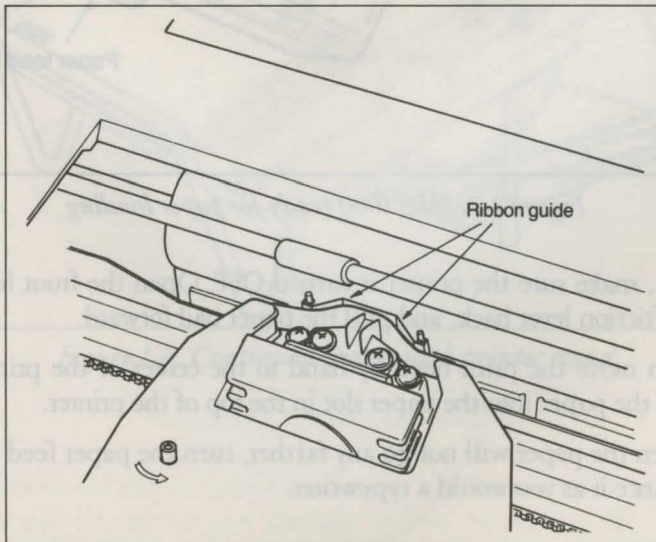

Figure 1-6. Ribbon placement
6. Tighten the ribbon by turning the knob on the cassette in the direction of the arrow. As you turn the knob, make sure the ribbon slips down into its proper place between the print head and the silver ribbon guide. See Figure 1-6 below.